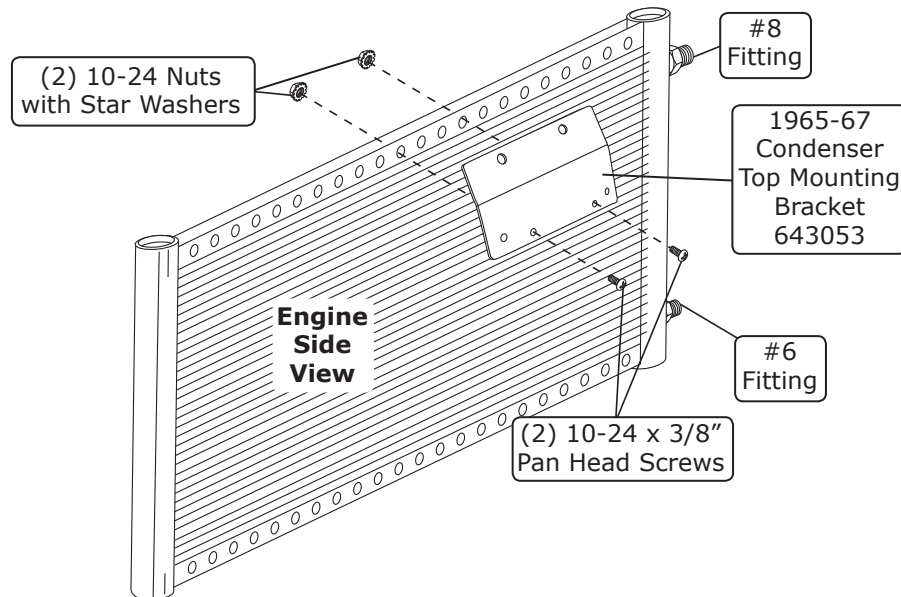

Figure 13
1. Install the top mounting bracket onto the condenser using (2) 10-24 x 3/8" pan head screws and (2) 10-24 nuts with star washers (See Figure 13, below). **NOTE: The bracket mounts through the 11th & 14th holes from the left side of the condenser.**